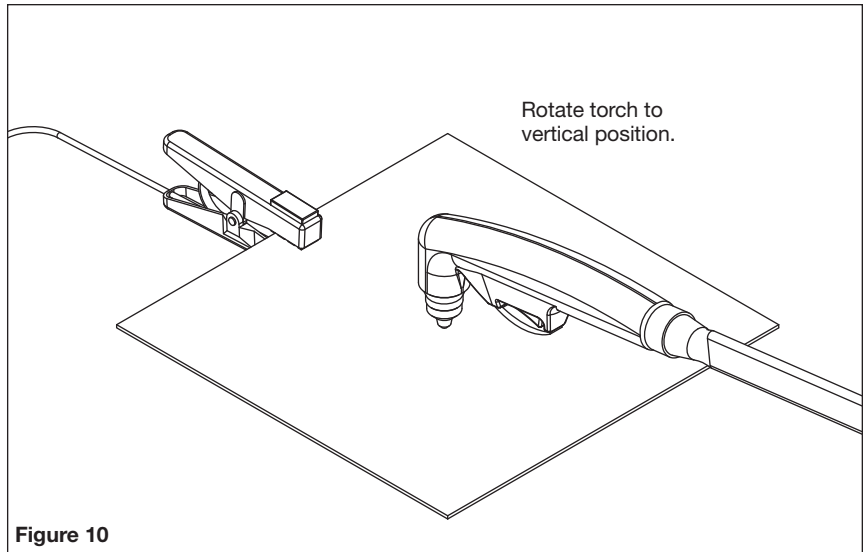

Figure 10
3. While holding the trigger on, rotate the torch to a normal 90° cutting position. See Figure 10.